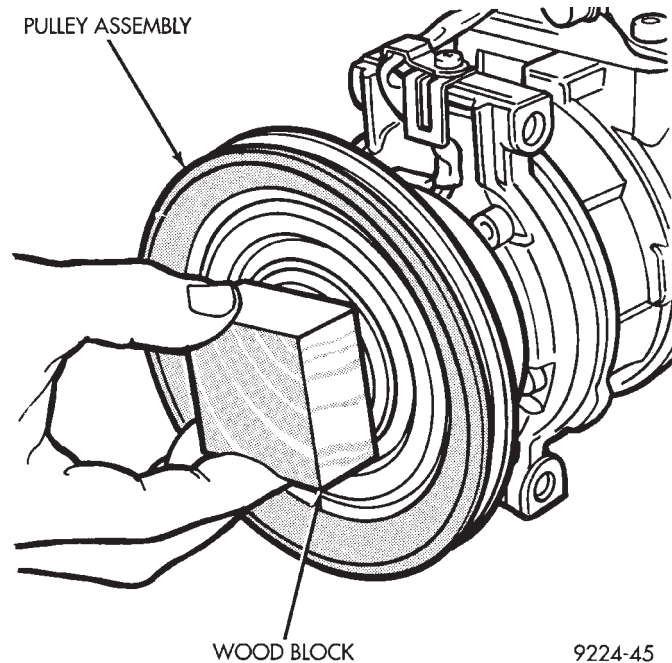

Fig. 9 Installing Pulley Assembly
(3) Install pulley assembly to compressor. If necessary, tap gently with a block of wood on the friction surface (Fig. 9).